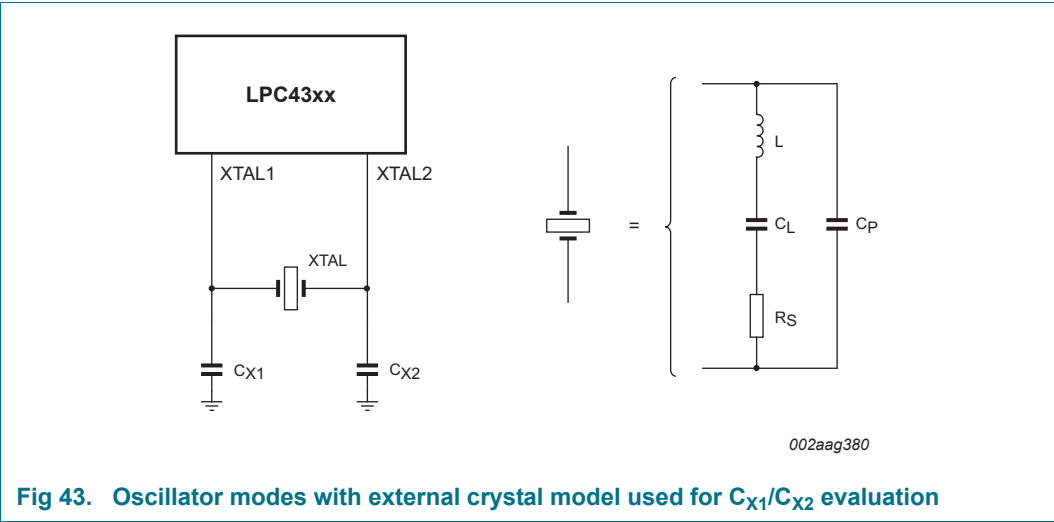

Fig 43. Oscillator modes with external crystal model used for C_{X1}/C_{X2} evaluation
- External components and models used in oscillation mode are shown in Figure 43, and in Table 39 and Table 40. Since the feedback resistance is integrated on chip, only a crystal and the capacitances C_{X1} and C_{X2} need to be connected externally in case of fundamental mode oscillation (L , CL and RS represent the fundamental frequency). The capacitance C_P in Figure 43 represents the parallel package capacitance and must not be larger than 7 pF. Parameters FC , CL , RS and CP are supplied by the crystal manufacturer.